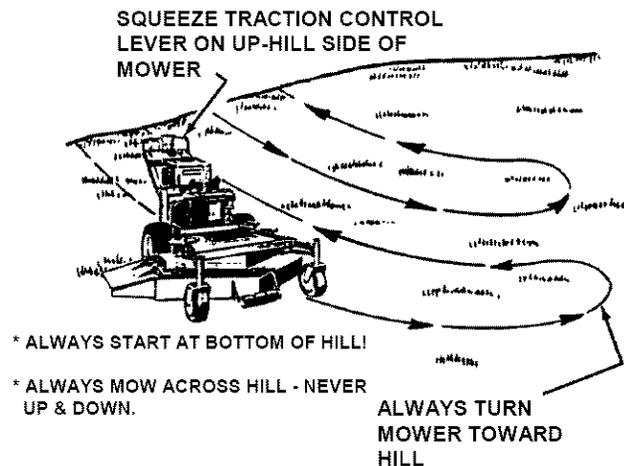

FIGURE 3.7
1. Always mow hillsides starting at bottom of hill. Mow across slopes, never up and down. Exercise **CAUTION** when changing directions on slopes. **DO NOT MOW STEEP SLOPES**. See Figure 3.7.